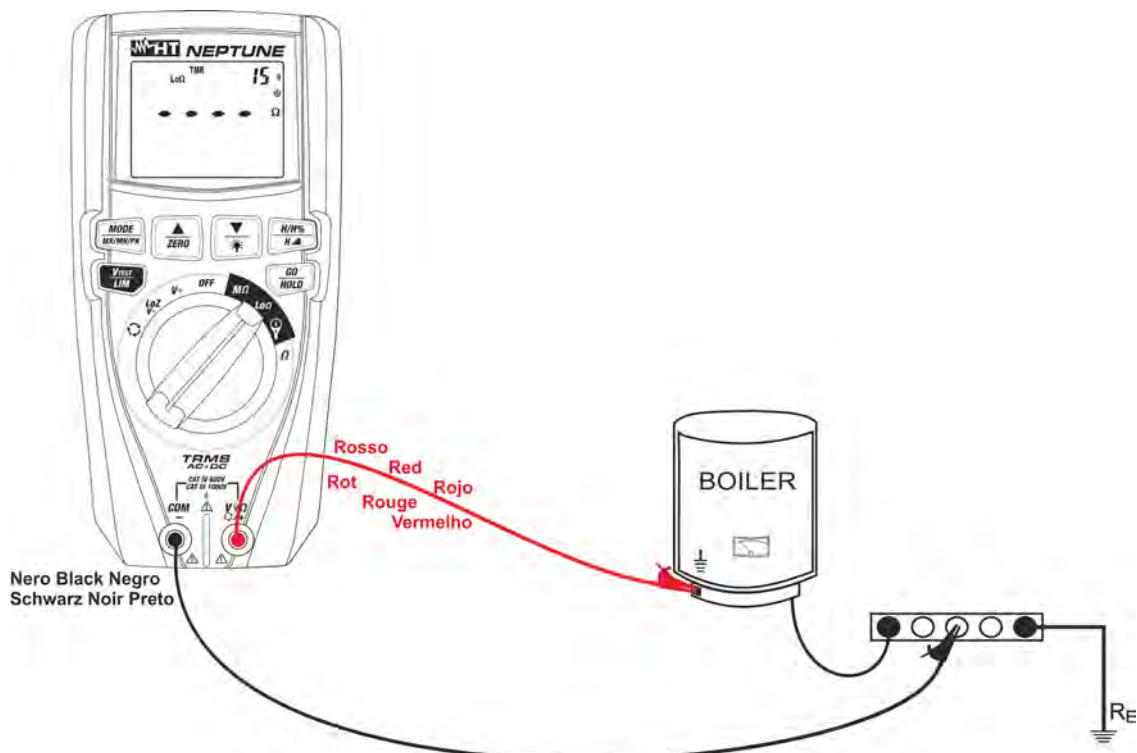

Fig. 29: Use of the instrument for continuity test in TMR mode
7. Insert the red lead into input terminal $V\Omega\ominus/+$ and the black lead into input terminal **COM/-**, and connect the instrument to the system to be tested (see Fig. 29).